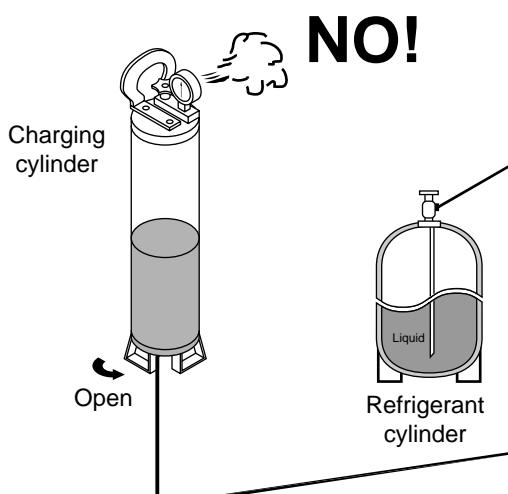

Fig. 6
- To prevent the composition of R407C from changing, never bleed the refrigerant gas into the atmosphere while transferring the refrigerant. (Fig. 6)